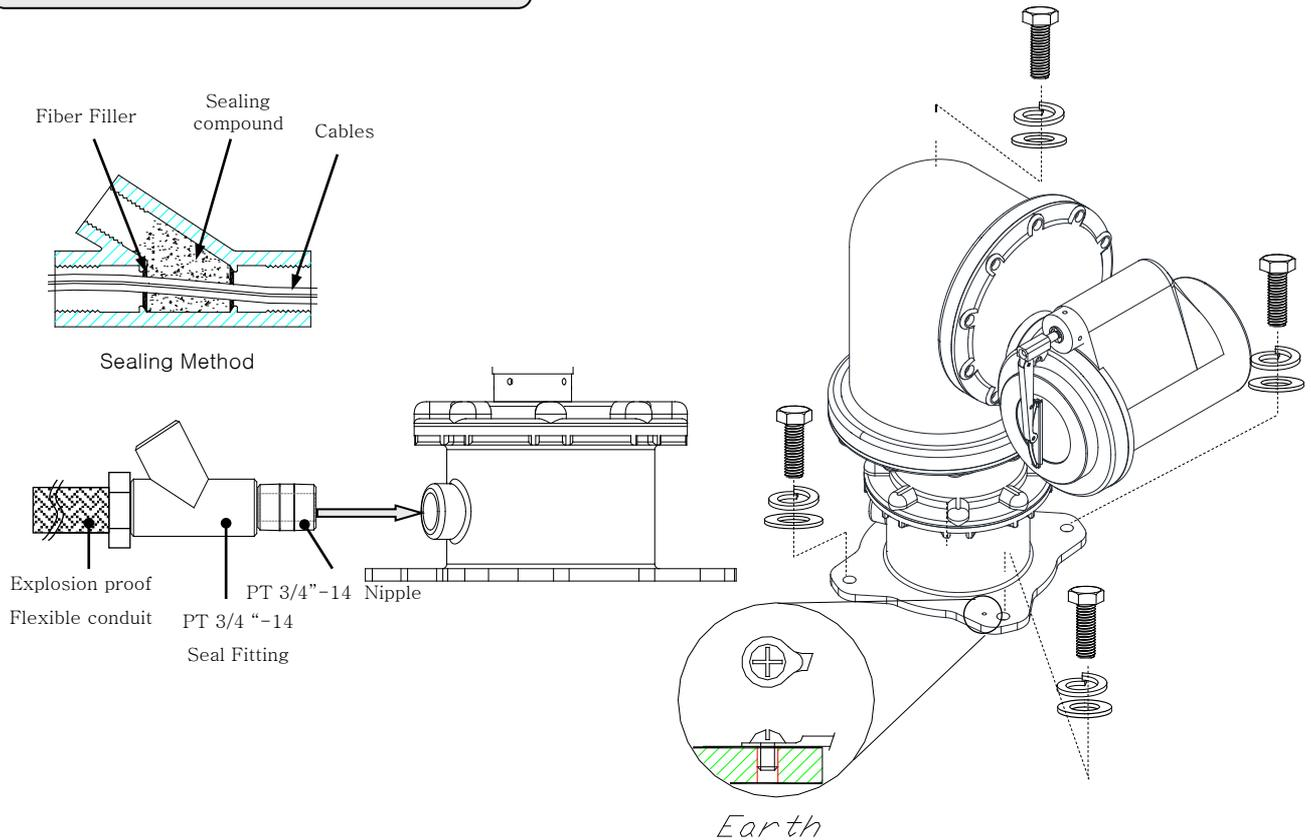

Figure2.
To install this system, please refer to Figure2 and do the following steps.
4. Pack the seal fitting with fiber as the sealing method of Figure2,
5. Install the Earth Cable like Figure2.